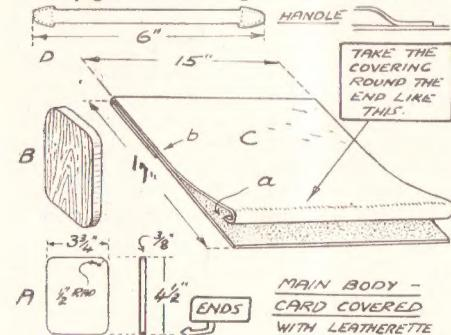

Fig. 2—Detail of parts needed
To make, first required are the two ends as (A), Fig. 2. Cut from any pieces of nice wood, $\frac{3}{8}$ in. thick, they are 4 $\frac{1}{2}$ ins. by 3 $\frac{1}{2}$ ins. and have the corners rounded to a curve of $\frac{1}{2}$ in. radius. The marking out of the corners is done by feeding a halfpenny up to them and drawing round it—a halfpenny being just 1in. in diameter. The detail at (B) shows one of the finished ends.
pletely drying out—which will not take long—cut the simple handle (D) Fig. 2. This is a strip of leather, 6ins. long and $\frac{1}{2}$ in. wide in the middle, but widening out to two rough arrow-head or heart shapes at the ends so it can be easily stitched on. A length of old strap slightly wider than $\frac{1}{2}$ in. and trimmed down in the centre will do well for this.